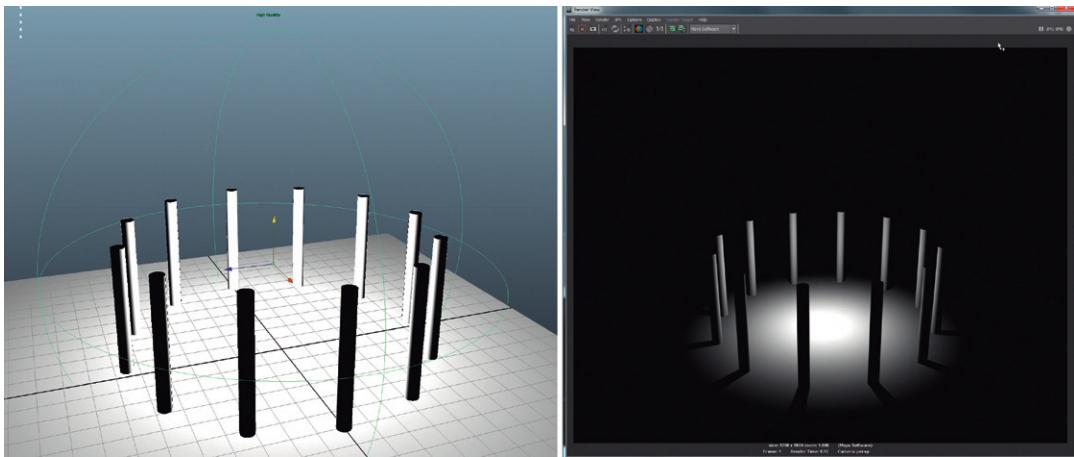

FIG 7.20 Volume Light. Illumination only takes place within the gizmo's volume shape.
This means that the effects of a light can be definitively seen in the View Panel, as the volume shape can be scaled up or down. The light decreases in intensity from the center point to the edge of the volume. Check out Fig. 7.20 and see how the sphere is slightly larger than the ring of columns and how the light from this instrument stops right there.
Step 21: Change the demo light to Type: Volume Light. Change its intensity to 5. Move and Scale the instrument to the middle of the ring of cylinders and render (Fig. 7.20). Try experimenting with the size and type of volume and taking multiple renders.